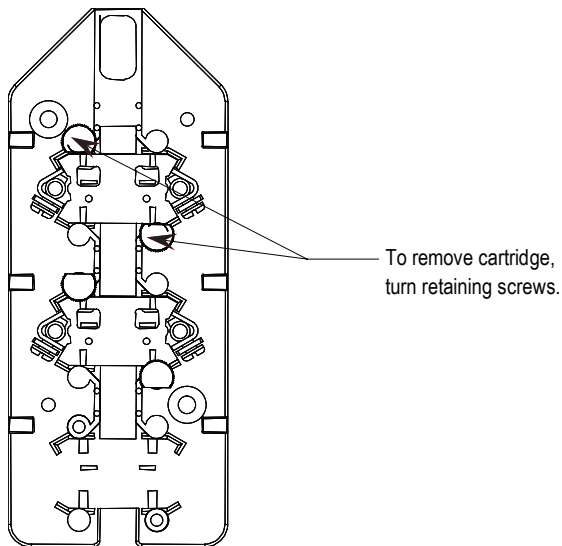

Figure 4.25 – Retaining Screws
1. If replacing a single contact cartridge, remove the appropriate leads and turn the plastic retaining screws to allow removal of the cartridge as shown in Figures 4.25 and 4.26. Insert the new cartridge and position the retaining screws to hold it in place. Reconnect the leads to the cartridge. Ensure that the cartridge is in the proper configuration (the top cartridges are normally closed, the bottom cartridges are normally open, refer to Figure 4.27). The “normal” state is when the contactor is “off” (open position).